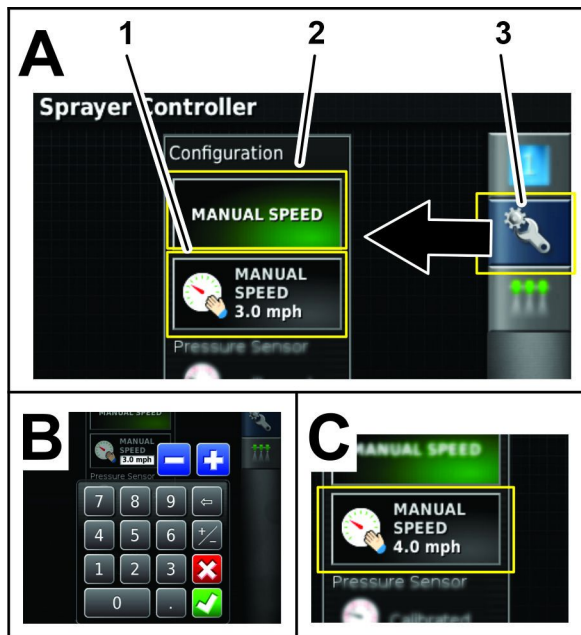

Figure 179
- Press the MANUAL SPEED icon (Figure 179).
- Press the manual speed entry icon (Figure 179).
- Use the on-screen keypad to enter the simulated speed and press the confirm icon (Figure 179).